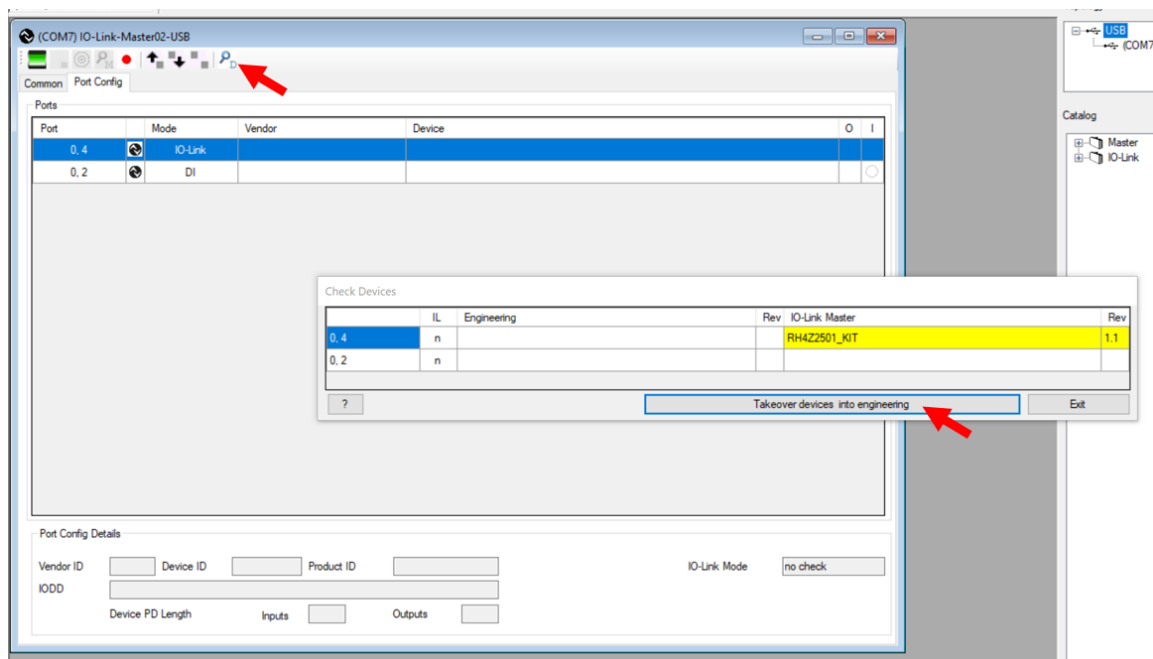

Figure 12. New Device Takeover
- d. Re-run a device detection by clicking on the loop and then on “Takeover devices into engineering” (see Figure 12).